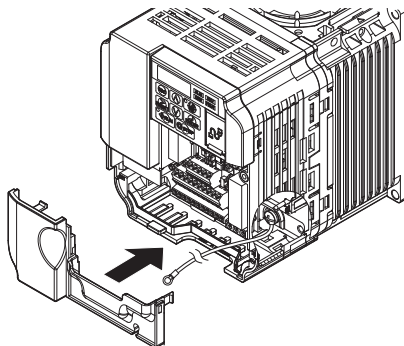
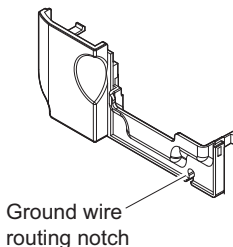

Figure 13 Reattach the Terminal Cover (Models CIMR-V□BA0006□ to BA0018□; 2A0008□ to 2A0069□; 4A0001□ to 4A0038□)
Figure 14 Terminal Cover Ground Wire Notch (Models CIMR-V□BA0006□ to BA0018□; 2A0008□ to 2A0020□; 4A0001□ to 4A0011□)
- 10.** On models CIMR-V□BA0006□ to BA0018□, 2A0008□ to 2A0069□, and 4A0001□ to 4A0038□, reattach the terminal cover. Refer to Figure 13 and Figure 14 for drive models CIMR-V□BA0006□ to BA0018□, 2A0008□ to 2A0020□, and 4A0001□ to 4A0011□, which require routing the ground wire through the provided notch when reinstalling the terminal cover.